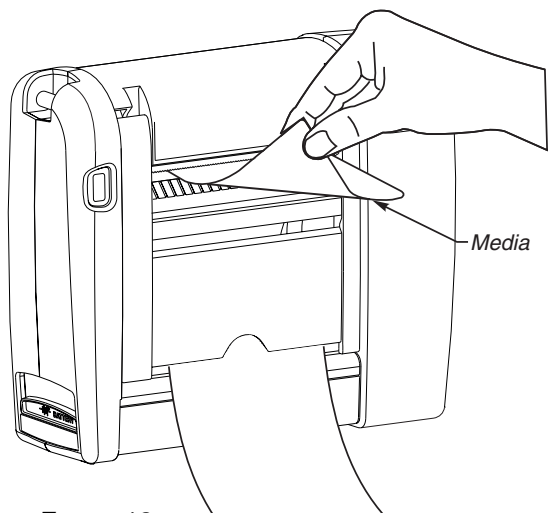

FIGURE 13
11. Swing up the media access door, ensuring that the media extends over the tear bar (refer to Figure 13).